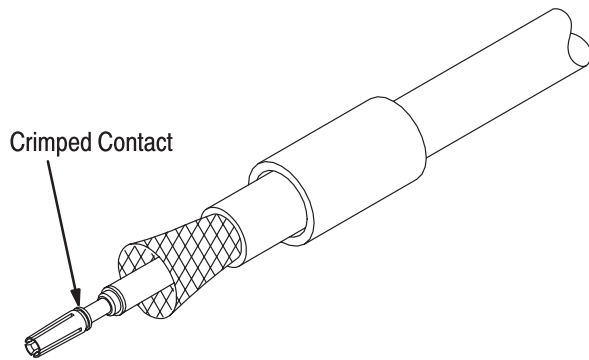

Figure 4
2. Insert center conductor into contact; then crimp contact using hand tool 354940-1 (fitted with the appropriate die assembly). See Figure 4.